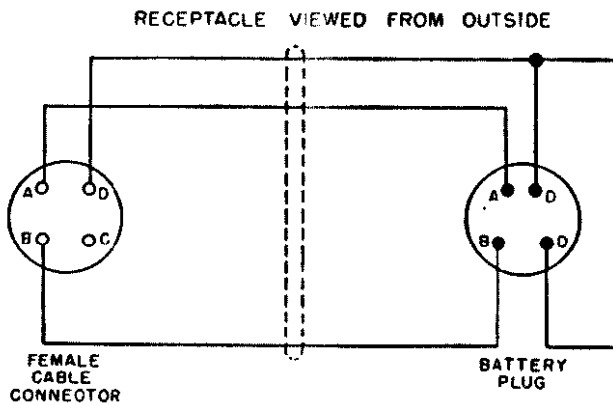

Figure 26. Cord CD-1119-GY, internal wiring.
a. CORD CD-1119-GY (fig. 26). Cord CD-1119-GY is 34½ inches long.